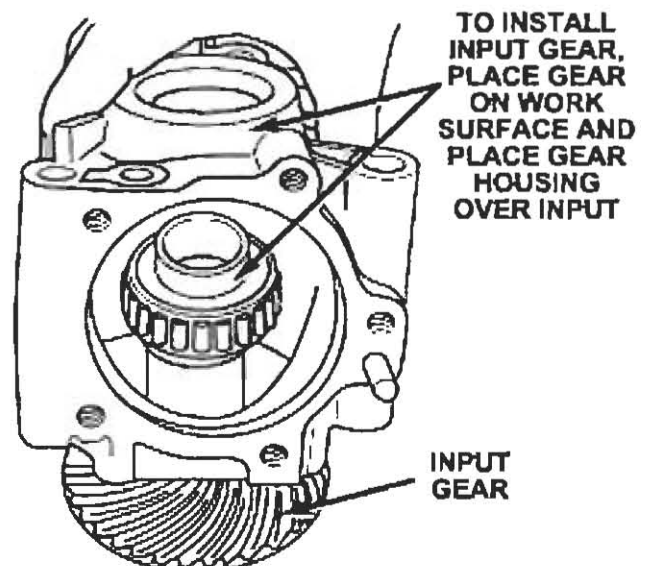

Figure 18
39. Install the input gear into the gear housing by placing the input gear assembly on the work surface with the shaft facing upward and then placing the gear housing over the shaft (Figure 18). Make sure that the shaft slides easily into the input shaft seal and that the seal lip is not twisted.